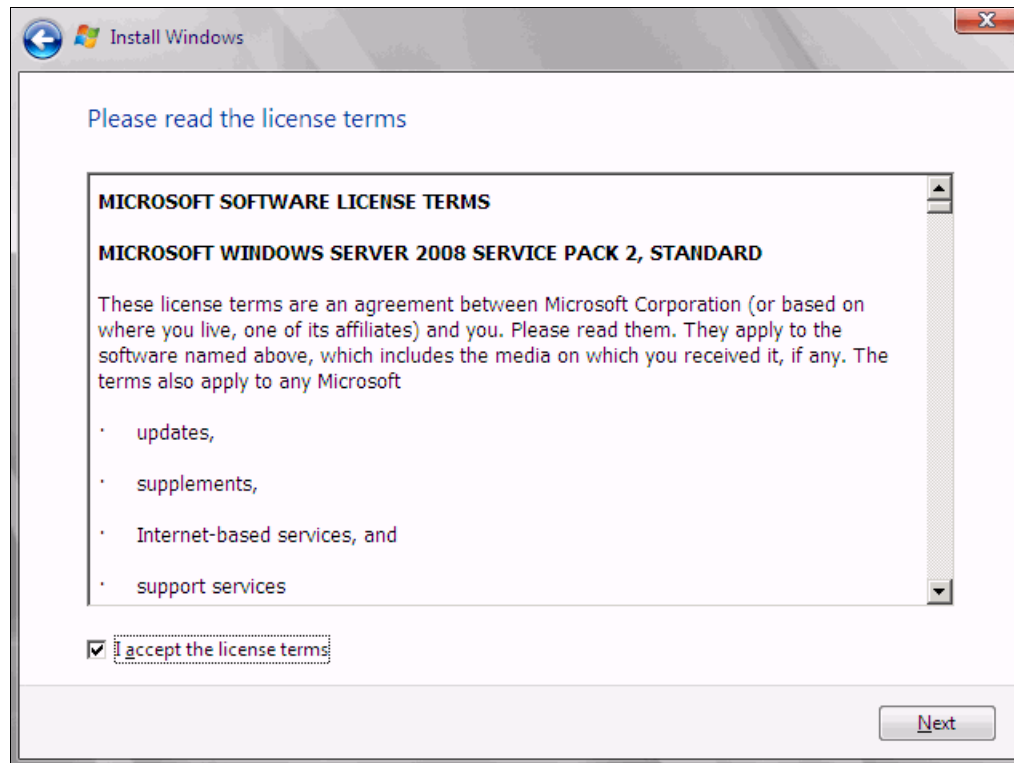

Figure 9-94 License agreement window
10. Read the license agreement (Figure 9-94), click **I accept the license terms**, and click **Next**.